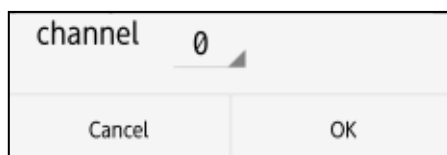

Figure 6-26 Channel setup screen
- (1) Long tap **[Parameter]** icon. The parameter setup screen appears.
- (2) Tap **[Channel]** menu. Then the channel setup screen shown in Figure 6-26 appears and shows the current channel selected.
- (3) Tap the channel number (in the case of Figure 6-26, tap 0). Then the list of the available channel numbers appears.
- (4) Tap a number in the list as the communication channel used. Then confirm the selected channel number is shown in the channel setup screen.
- (5) Tap **[OK]** to return to the parameter setup screen. To cancel the channel change, tap **[Cancel]**, then the screen returns to the parameter setup screen.
- (6) Tap **[Return to the main window]** to return to the main screen.